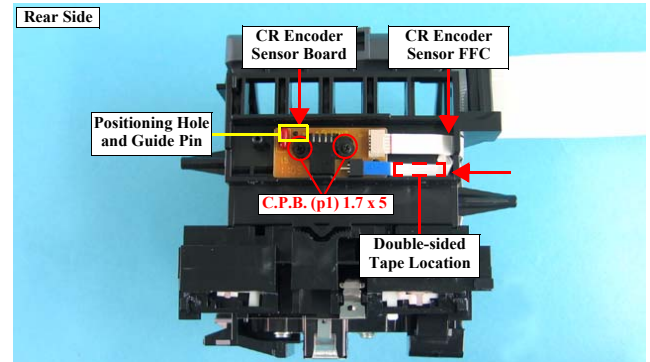

Figure 4-72. Removing CR Encoder Sensor Board
- When installing the CR Encoder Sensor Board, match the positioning hole with the rib as shown in Figure 4-72.
- The PW Sensor FFC should be attached to the location with double-sided tape as shown in Figure 4-72.